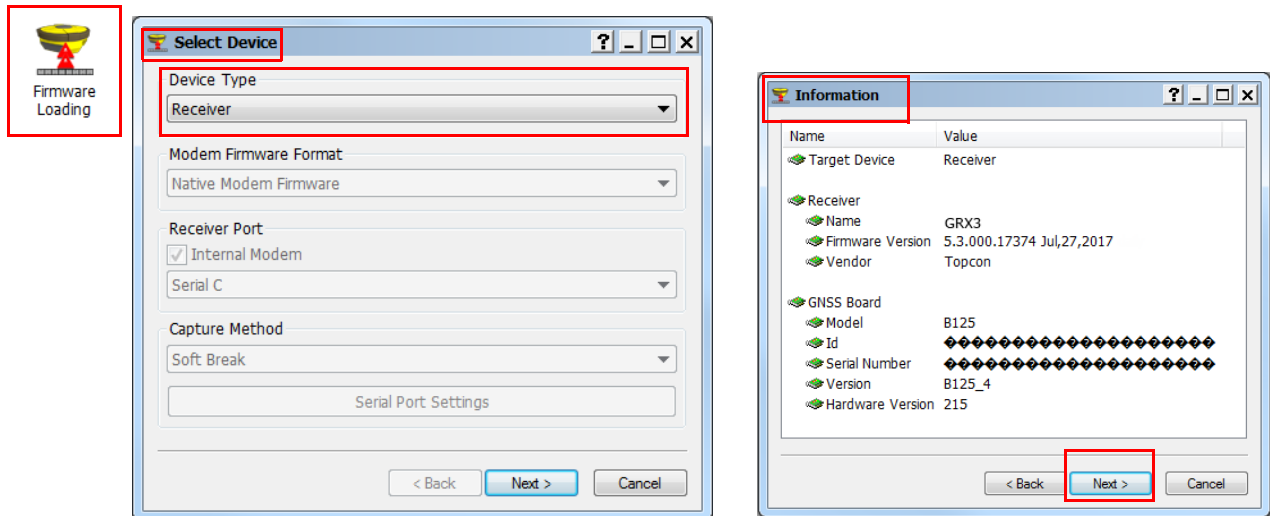

Figure 5-3: Select Device/Device Information Screens
- Click the **Firmware Loading** icon (Figure 5-3). The **Select Device** screen appears (Figure 5-3).
12. Click **Next**. The **Information** screen appears (Figure 5-3).